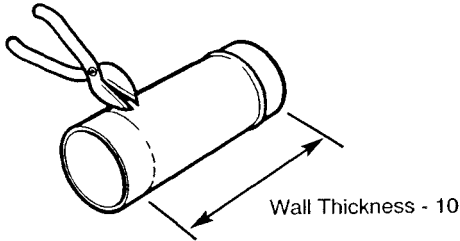

Fig. 64
5. Mark off the dimension, wall thickness - 10mm (3/8 in), measuring from the beaded end of the duct and cut off the remaining length of the duct. Ensure that the cut is square and reasonably straight (Fig. 64).